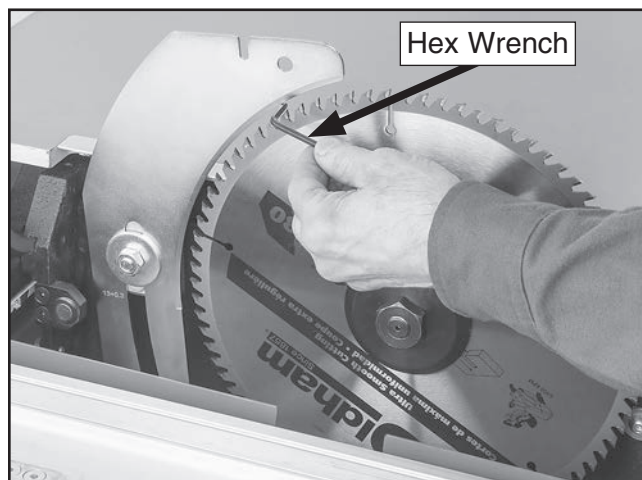

Figure 36. Adjusting splitter/riving knife-to-blade spacing.
29. Adjust riving knife or splitter/riving knife approximately $\frac{1}{8}$ " away from main blade, using a $\frac{1}{8}$ " or 3mm hex wrench as a guide (see **Figure 36**).